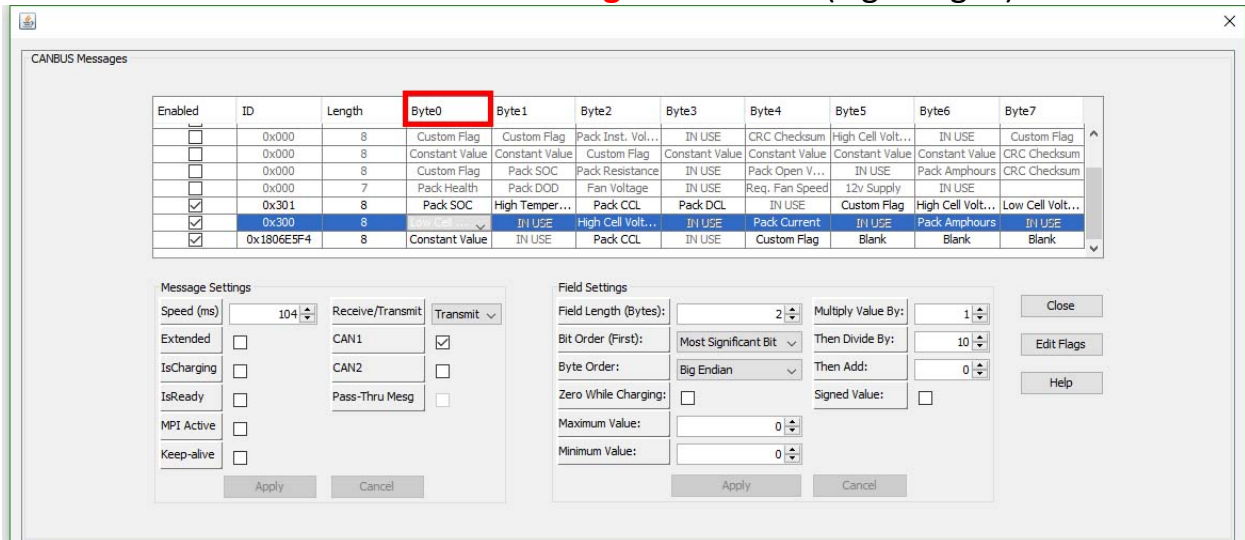
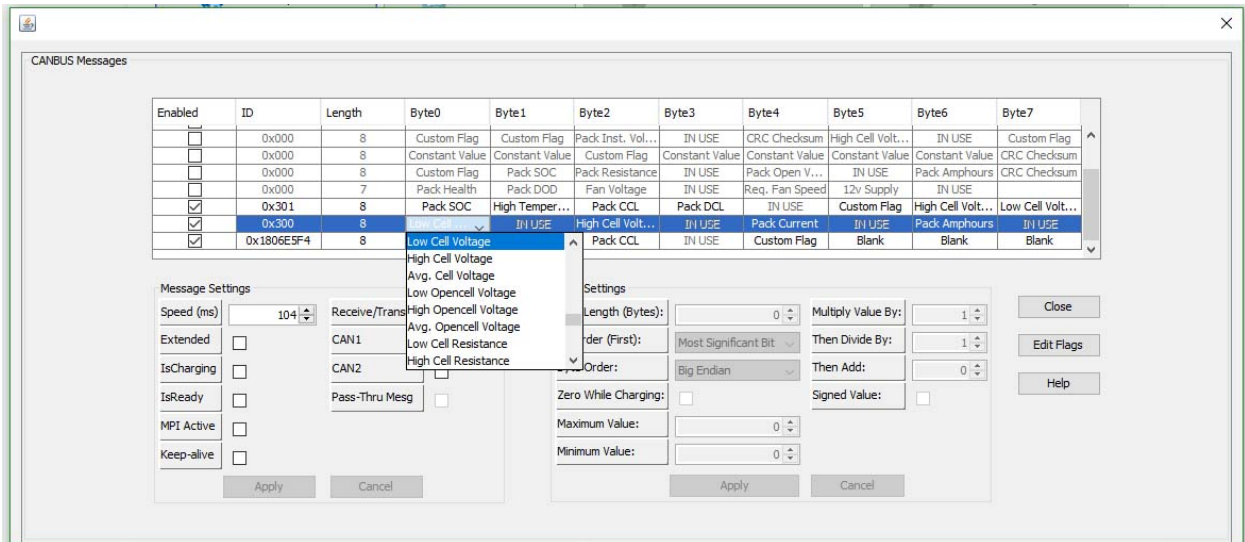

Fig. 6
Fig. 7
- The following is the settings for **Low Cell Voltage**. The Bytes used are Byte0 and Byte 1 in message 0x300. In the dropdown menu for Byte0 make sure that **Low Cell Voltage** is selected. (Fig. 6 Fig. 7)